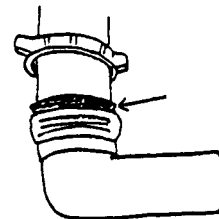

Figure 2a
3. Slide the elbow onto the tube and make sure the gasket is secured into the elbow. (Figure 2a)